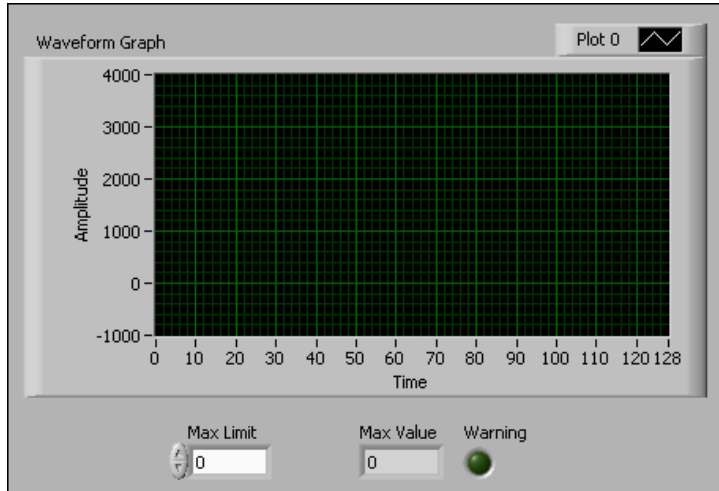

Figure 12. Renaming Controls and Indicators on the Front Panel
- Click the **100** on the x-axis of the waveform graph and enter 128. The front panel window now appears as shown in Figure 12.